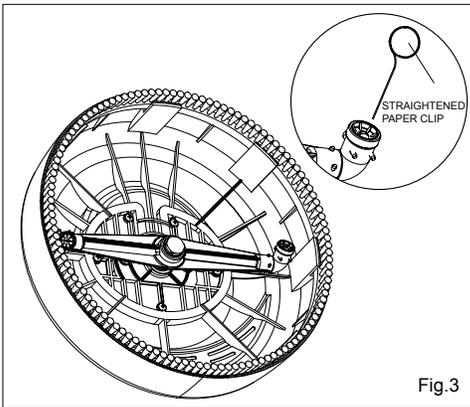

Fig.3
- If striping or swirl marks occurs slow your pace. If striping or swirling continues, the surface cleaner nozzle(s) may be clogged. Disconnect surface cleaner from pressure washer spray wand before servicing. Using a straightened paper clip or nozzle cleaning tool (not provided), free any foreign materials clogging or restricting the nozzle.(See Fig.3)